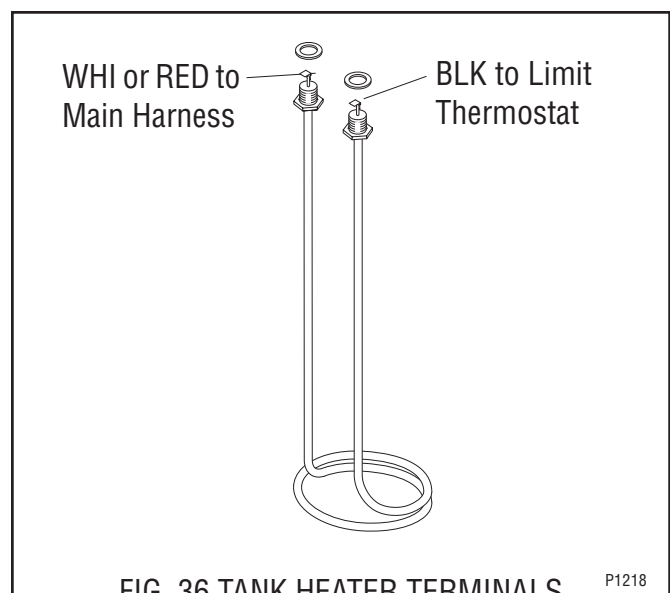

FIG. 36 TANK HEATER TERMINALS
14. Refer to Fig. 36 when reconnecting the wires to the tank heater.